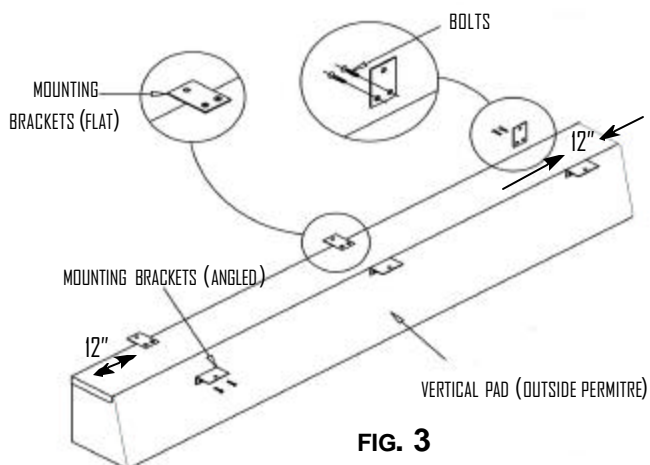

FIG. 3
- Mark and drill holes at centre as well as 12" from each end of the frame (Fig. 3).
NOTE: FINAL LOCATION OF THE BRACKET TO BE DETERMINED BY THE INSTALLER TO SUIT SPACING OF THE MORTAR JOINTS OR OTHER WALL CONFIGURATIONS. COMMON LOCATION OF BRACKETS IS ONE AT CENTRE AND ONE 12" FROM EACH END (FIG. 3).